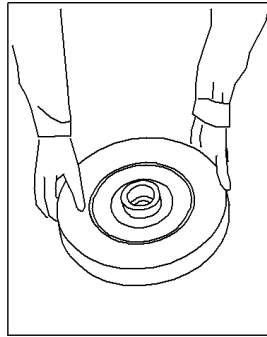

FIG 6.11.6
- (1) Confirm if there are any labels or papers on flanges, set the wheel into flange as drawing FIG 6.11.6, Do not press the wheel into flange with too much force. Get rid of the burs on wheel hole so that you can put the wheel into flange smoothly.
- (2) Set into the sliding pad